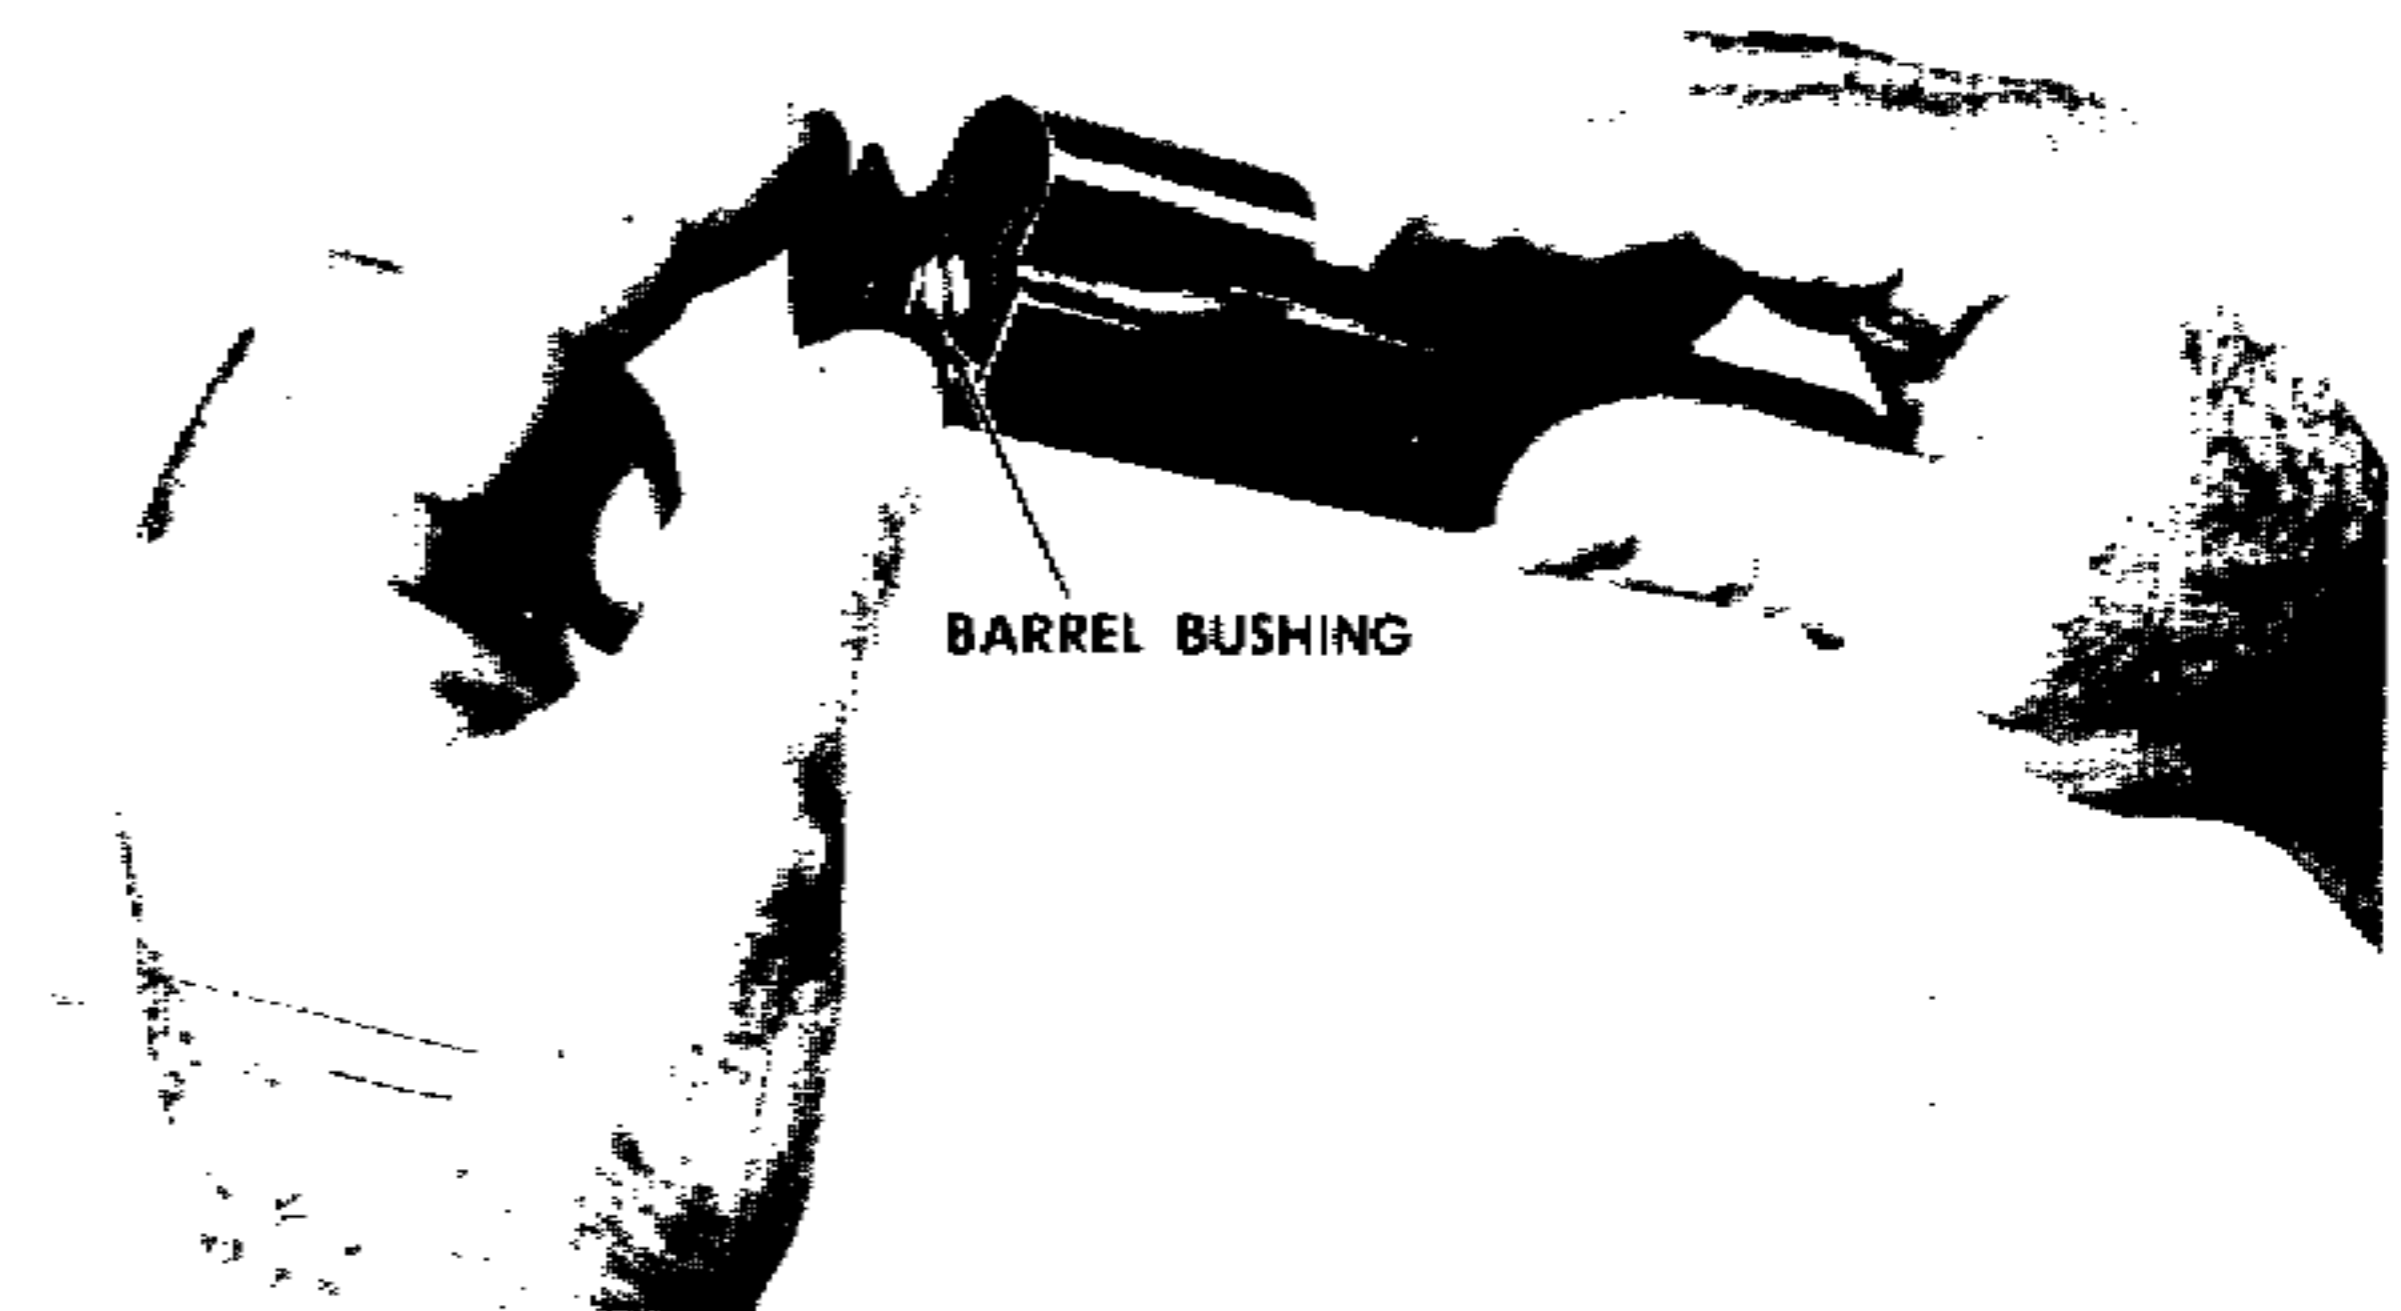

Figure 11. Remove the barrel bushing by turning it counterclockwise and pulling it from the slide.
b. *Barrel Bushing.* Place the barrel bushing on the muzzle end of the barrel, push it into the slide, and turn it clockwise (fig.11).